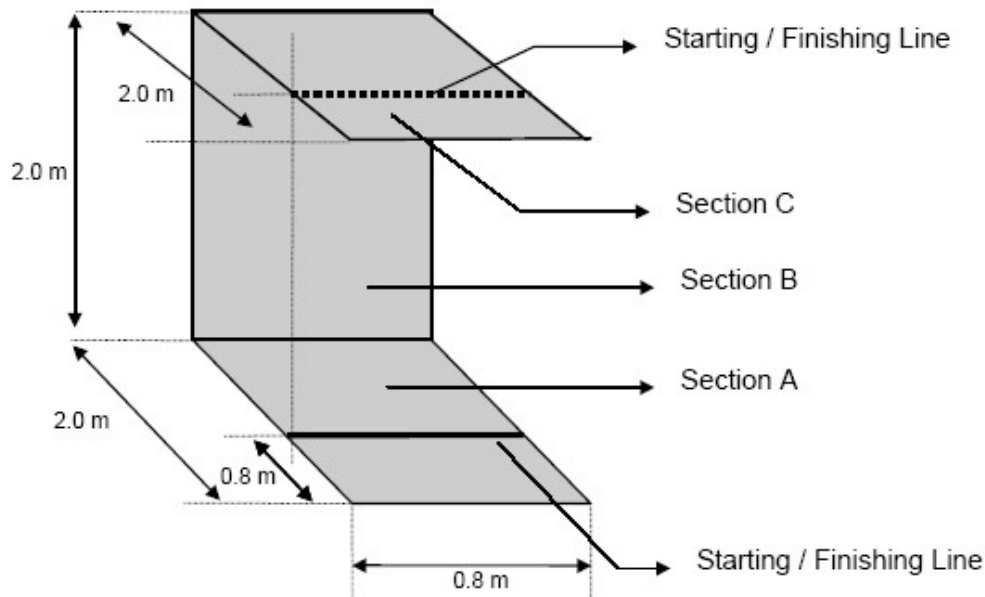

Figure 1: The wall for the wall-climbing robot race
2.1 The wall is shown in Figure 1. It consists of three sections: a two metres long horizontal section (section A) on the ground followed by a two metres high vertical section (section B) followed by a two metres long horizontal section (section C) at the top, with each section at least 0.8 metre wide. The following tolerance will applied:
The wall will be deemed to have satisfied criteria (a) and (b) above and be considered fit for use if each of the two distances between diagonally opposite corners (using the side view in Figure 1) lies in the range 2733 mm to 2847 mm.
2.4 The supporting structure for the wall will have provision for two safety cables to be attached to the robot so that both cables can be used simultaneously during the race (not shown in Figure 1.)